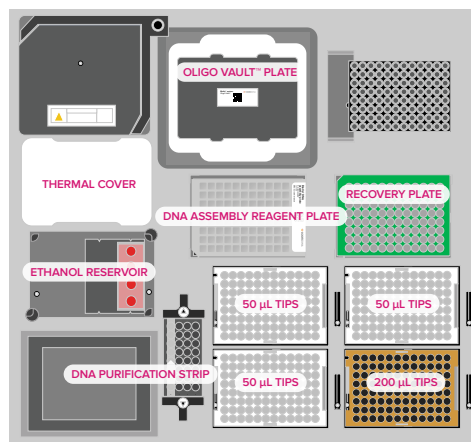

Figure 6: Placement of BioXp QC test labware before the run
8. Once the deck is loaded, confirm that all components are securely seated (figure 6).